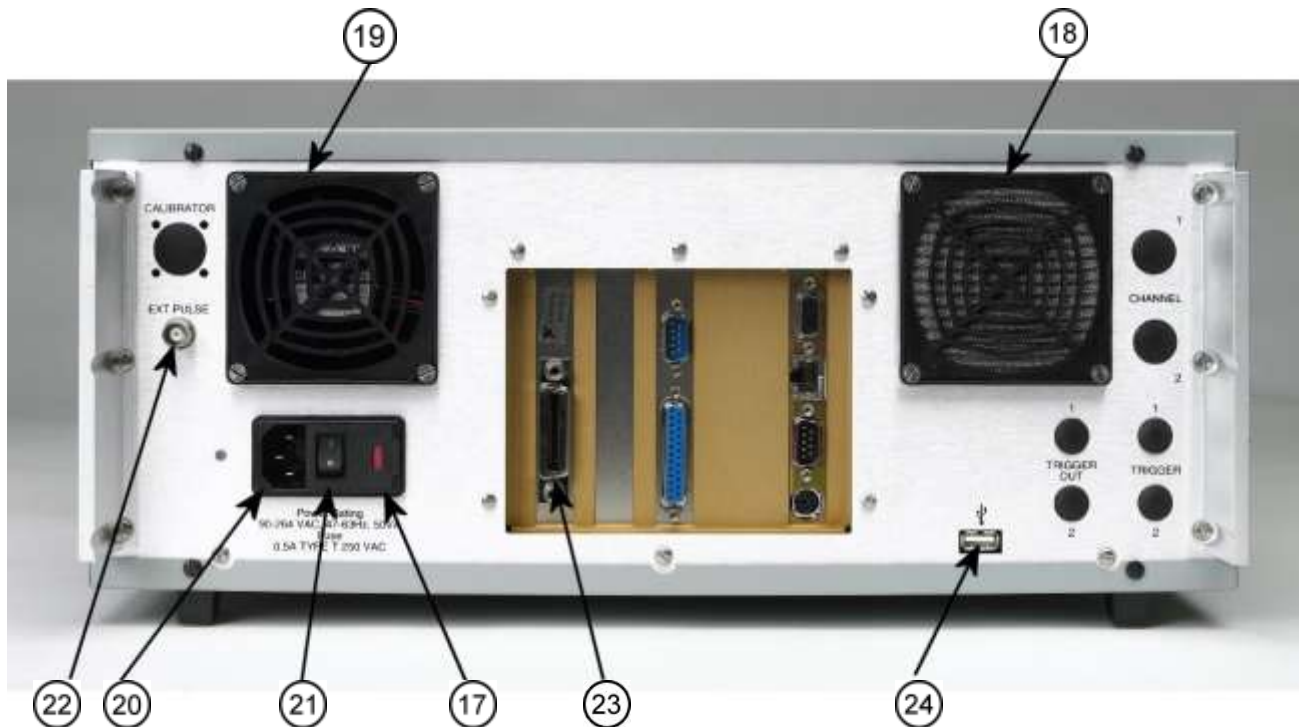

Figure 3-2. Model 4500B - Rear Panel
The Model 4500B is equipped with a switching power supply that provides automatic operation from a 90 to 260 volt, 47 to 63 Hz, single-phase, AC power source. Power consumption is 125VA maximum. For metric fuse sizes, use the metric fuse kit supplied. Connect the power cord supplied with the instrument to the power receptacle on the rear panel. See Figure 3-2.
9. Verify that the Instrument Serial Number matches the number on the label at the top center of the rear panel. See Figure 3-2. If an improper serial number appears on the screen, contact Boonton Electronics for technical support.
1. If the main power is off, press the power switch located on the rear panel. See Figure 3-2. If the STBY indicator LED on the front panel is on, press the PWR key. See Figure 3-1. After a self-check, the instrument will execute the application program. A brief initialization screen will appear, which shows the instrument name, model number, and software version. After several moments the main measurement screen will appear. If it is necessary to change the sensor installed on the instrument, perform Steps 2, 3 and 4.